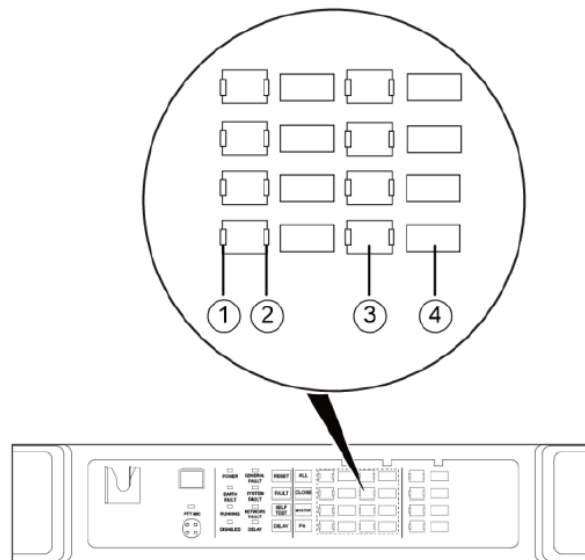

Figure 5 Schematic Diagram of the ZS-2000M Zone Selection Buttons and State Indicator Lights
- 6.- **Zone selection buttons and state indicator lights:** figure 5 is the schematic diagram of the ZS-2000M zone selection buttons and state indicator lights. Refer to Table 4 for relevant descriptions.